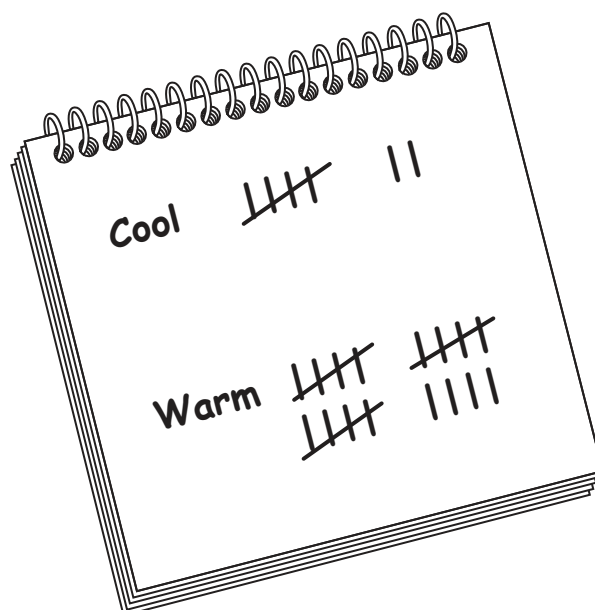

Fig. 1.2
- Step 3 The student counted the number of gas bubbles produced by the yeast suspension in five minutes and recorded the results in a tally chart. This is shown in Fig. 1.2.
(a) (i) Prepare a table and record the student’s results shown in Fig. 1.2.